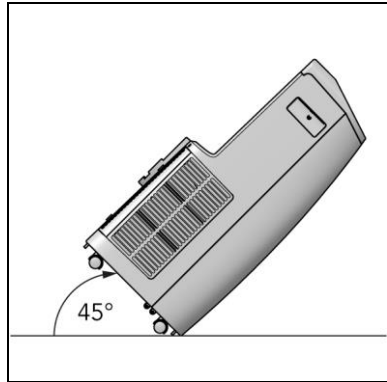

Figure 6
1. The device can be moved from room to room. Make sure to not tilt the device more than 45 degrees. (Figure 6).